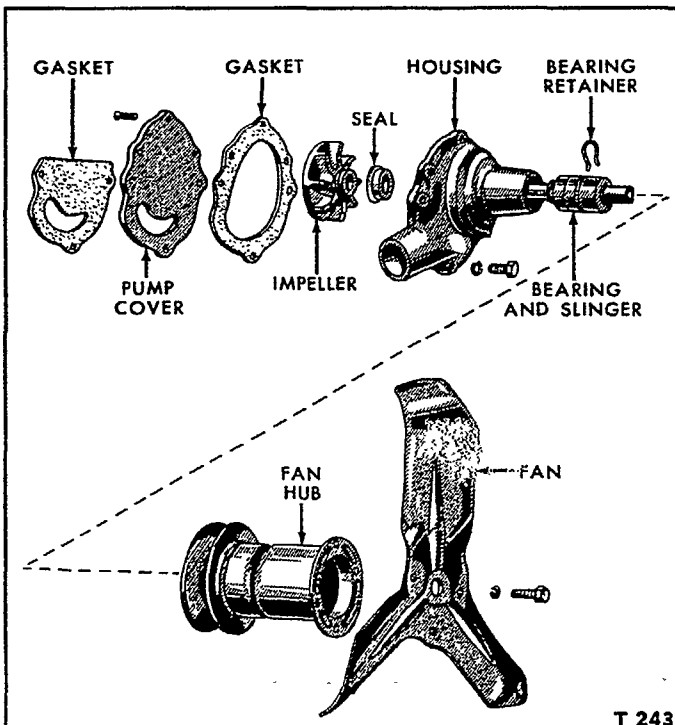

Figure 3—Water Pump Disassembled
A repair kit is available for servicing the pump. Figure 3 shows the pump disassembled.
1. Remove the pump cover and cover gasket, Figure 3.
1. Press the shaft and bearing assembly into the housing as shown in Figure 5. Position the retaining clip groove so that it is aligned with the groove in the housing. Install the bearing retainer, Figure 3, on the bearing.